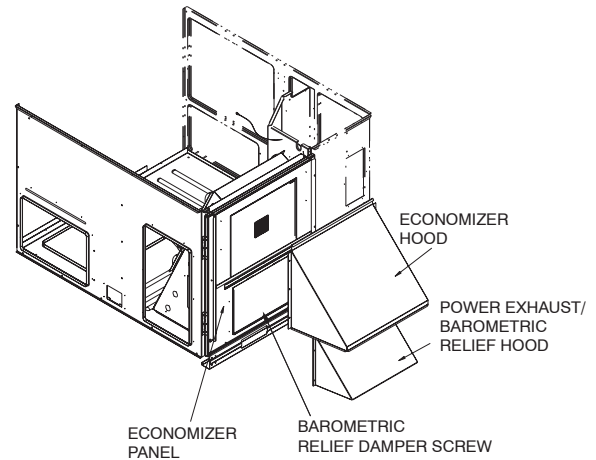

Fig. 19 - Hood Installation
3. The barometric relief damper is secured to the economizer panel for shipping. Remove the screw holding the barometric relief damper to the economizer panel. Damper should be free to swing open during operation. (See Fig. 19.)
4. Hang the barometric relief/power exhaust hood on the mounting flange on the economizer panel. Secure hood to panel with screws saved from Step 2. (See Fig. 19 and 20.)
5. Align hole in flange of economizer panel with left edge of hood. Hang economizer hood on the top flange of the economizer panel by rotating hood until top flange of the economizer hood engages the bent flange on the economizer panel. Rotate hood until hood is flush with the economizer panel. Hood will support itself from flange. Align holes in hood with holes in panel and secure hood to panel with screws saved from Step 2. (See Fig. 19 and 21.)